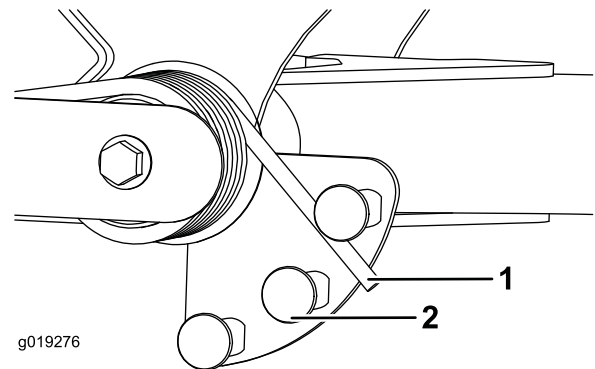

Figure 40
2. Insert a tube or similar object onto the long spring end and pivot it around the spring actuator to the desired position (Figure 40).
3. While relieving the spring tension, remove the bolt and locknut securing the spring actuator to the bracket (Figure 40).